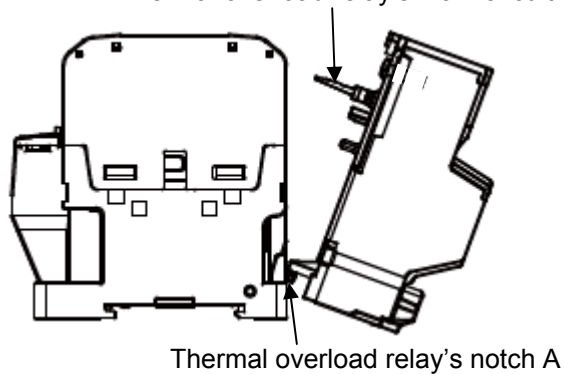

Fig. 1
2. Tilt the thermal overload relay, and guide the thermal overload relay's notch A (two places) into the magnetic contactor's indents (two places), and align the position so that the three thermal overload relay main circuit conductors are on the left side of the main terminal screws. (Fig. 1)